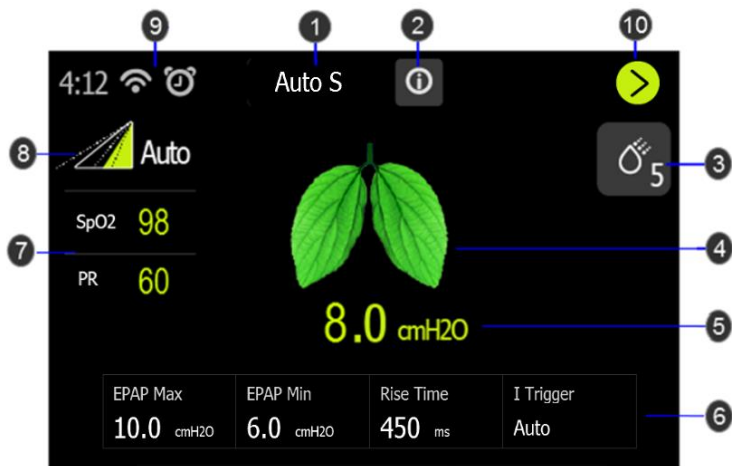

Figure2 Patient Therapy Clean Interface
3. Press the Therapy On/Off key on top of the device to turn on airflow and begin therapy. The screen will display to patient therapy clean interface (see Figure 2).